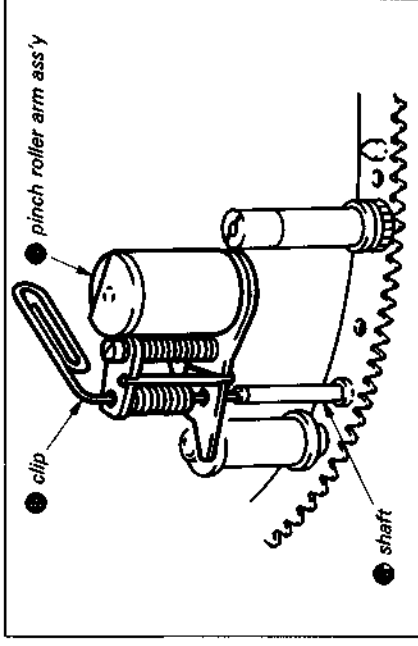

Fig. 7-22.
- 3) Push the end of the clip ● through to contact the loading ring assembly shaft ● and mount the pinch roller arm assembly ●. (See Fig. 7-22, 7-23.)